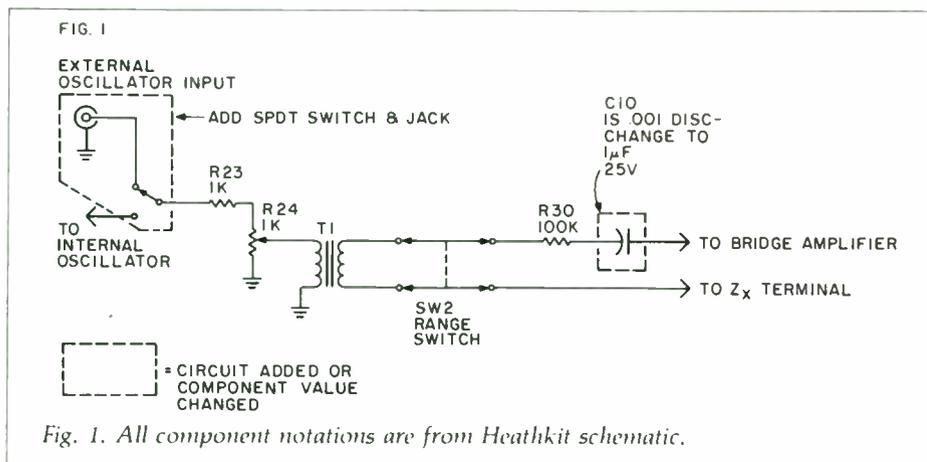

Fig. 1. All component notations are from Heathkit schematic.
WHEN TESTING TWO WAY speaker enclosures after initial construction I like to investigate the effects of series padding of the tweeter to "push" the high end response limit. The simple crossover test box shown schematically in Fig. 1 allows this. It is only a series resistor-
capacitor circuit, but it covers the value range I have found needed and in a way that is convenient. The resistor portion is composed of sixteen  $2\Omega$  11W resistors (Ohmite Stock No. 4737) and an old two layer 18 position (can only use 17 actually) rotary switch ( $S_1$ ). I had all these parts on hand but any substitutes would be O.K. The switch can be shorting or non-shorting and the resistors can be a lower wattage with no problems. With the wiring shown in Fig. 1, the resistance can be varied from 0 to  $10\Omega$  in  $1\Omega$  steps, 10 to  $16\Omega$  in  $2\Omega$  steps and 16 to  $28\Omega$  in  $4\Omega$
tionally what I wanted. While attenuation should be changeable in tiny steps, functionally you sometimes want to jump the crossover frequency in reasonably large steps. Thus I wanted to be able to make large capacity changes from any dialed capacity value, so the unit was implemented with five SPDT, center-off miniature toggle switches ( $S_2-S_6$ ) wired as shown in Fig. 1. This allows any  $0.5\mu\text{F}$  increments from 3 to  $31\mu\text{F}$ . One more switch and two capacitors would halve this increment, but I have not found it needed. The capacitor value is the sum of the values of the "on" switch positions.
1. The internal oscillator operates on only three frequencies: 1, 10, 100kHz. I added an extra jack and switch to select between this internal source and an outboard signal generator covering 10Hz-100kHz see Fig. 1 for circuit modification. Photo #1 shows the jack's location on the front panel. Note that the photo was taken before I added the switch, which I did when I realized the unit's portability suffered if